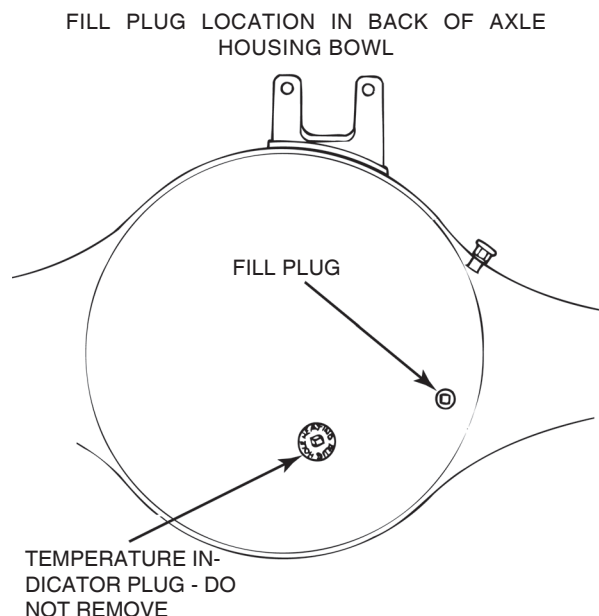

Figure 5.112
2. Remove the fill plug from the side of the bowl cover of the axle housing. Figure 5.112.